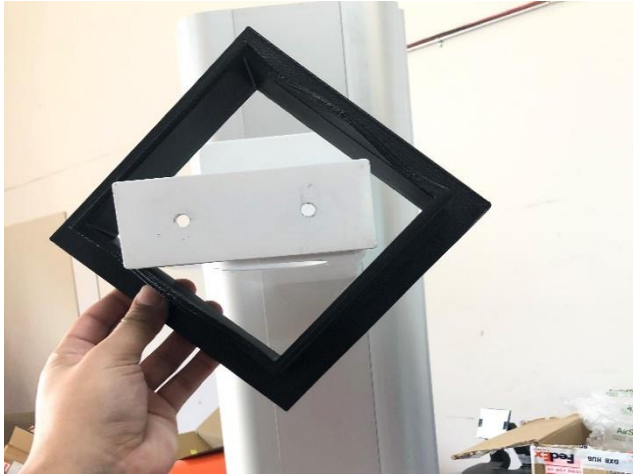

Figure 5: inserting the Arm cap on the arm.
1.16. Add the plastic arm cap as shown in figure 5 below.